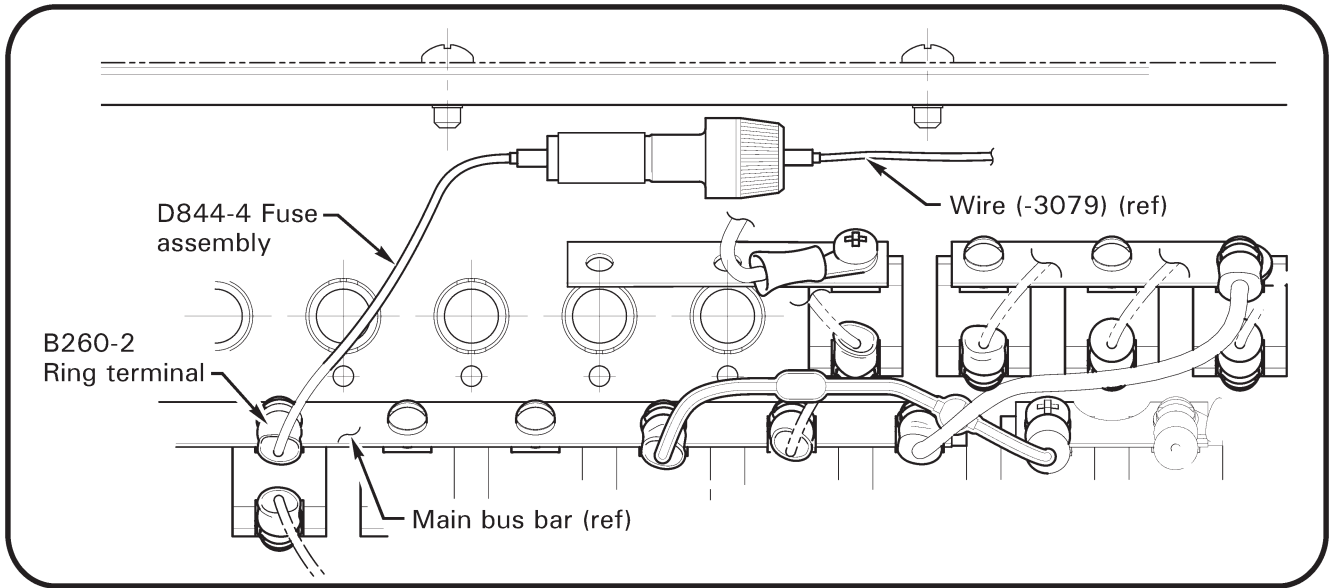

FIGURE 5 Fuse block assembly installation
13. Refer to Figure 5. Route D844-2 harness wire (-3080) to ground stud on C351-1 LH aft seat back brace. Cut wire to length and strip end. Install B260-3 ring terminal to wire. Inspect crimp per MM § 23-84. Verify security of terminal. Install ring terminal to ground stud.
- 15. Refer to Figure 5. Select available location on main bus bar. Remove existing installation screw and lockwasher from selected location; discard screw and retain lockwasher. Install D844-4 fuse assembly ring terminal to bus bar using new MS35206-226 screw and retained lockwasher. Secure fuse holder along adjacent wire harness using appropriately-sized ty-raps. Cinch ty-raps until snug without over-tightening, and trim tips flush.